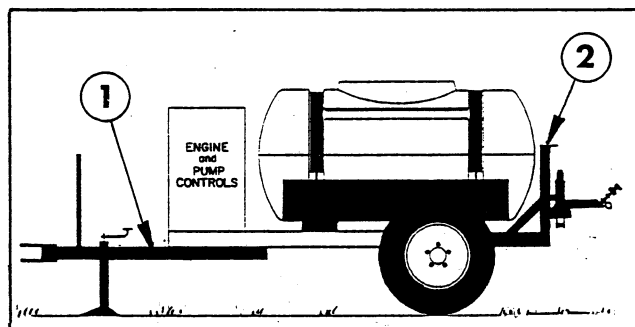
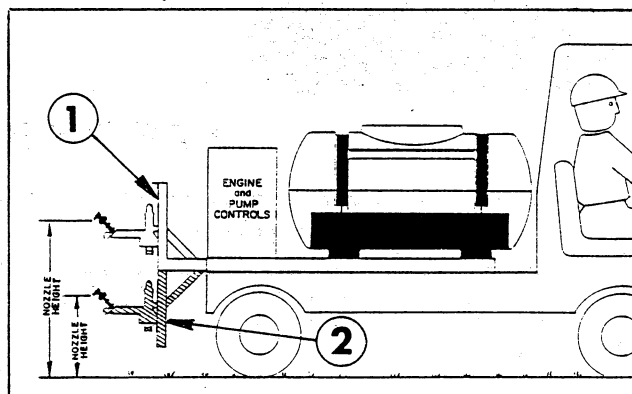

FIG. 3
FIG. 4
NOTE: If the Skid Sprayer is to be installed on a Trailer, (as shown in FIG. 3), install the Elbow and Quick Coupler in the Tank as shown in Detail "A". If the Skid Sprayer is to be installed on a Transport Vehicle (as shown in FIG. 4), install the Elbow and Quick Coupler as shown in Detail "B".
If the Skid Sprayer is to be equipped with the optional Trailer Package (Model No. 41415), mount the Boom as shown in FIG. 3.
a. If this distance is 24" or less on your vehicle, install the Boom Mounts in the **upright** position. See FIG. 4.